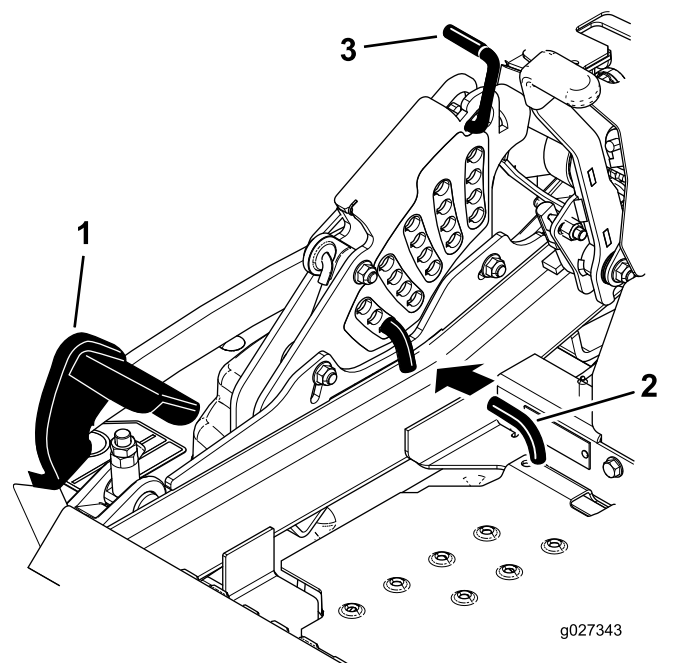

Figure 28
2. Push on the deck-lift pedal with your foot, and raise the mower deck to the transport position (also the 140 mm (5-1/2 inch) cutting height position) as shown in Figure 28.
3. To adjust, rotate the pin 90 degrees and remove the pin from the height-of-cut bracket (Figure 28).
4. Select a hole in the height-of-cut bracket corresponding to the height-of-cut desired, and insert the pin (Figure 28).